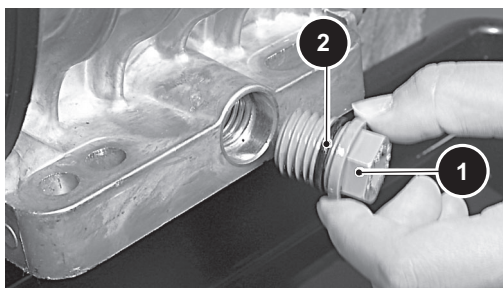

Fig. 5 Oil Drain Plug
Before installing the drain plug clean the area around the drain plug mount with a lint free cloth and inspect the drain plug (1) for damage; replace if necessary (Ref. Fig. 5). If the 'O' ring (2) on the drain plug is damaged replace it with a new one and tighten to the specified torque.